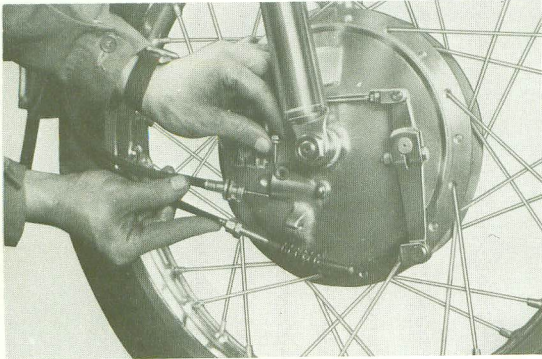

Fig. 5-1-2
- (1) Disconnect the brake cable from the front brake shoe plate, and remove the speedometer cable. (Fig. 5-1-2)